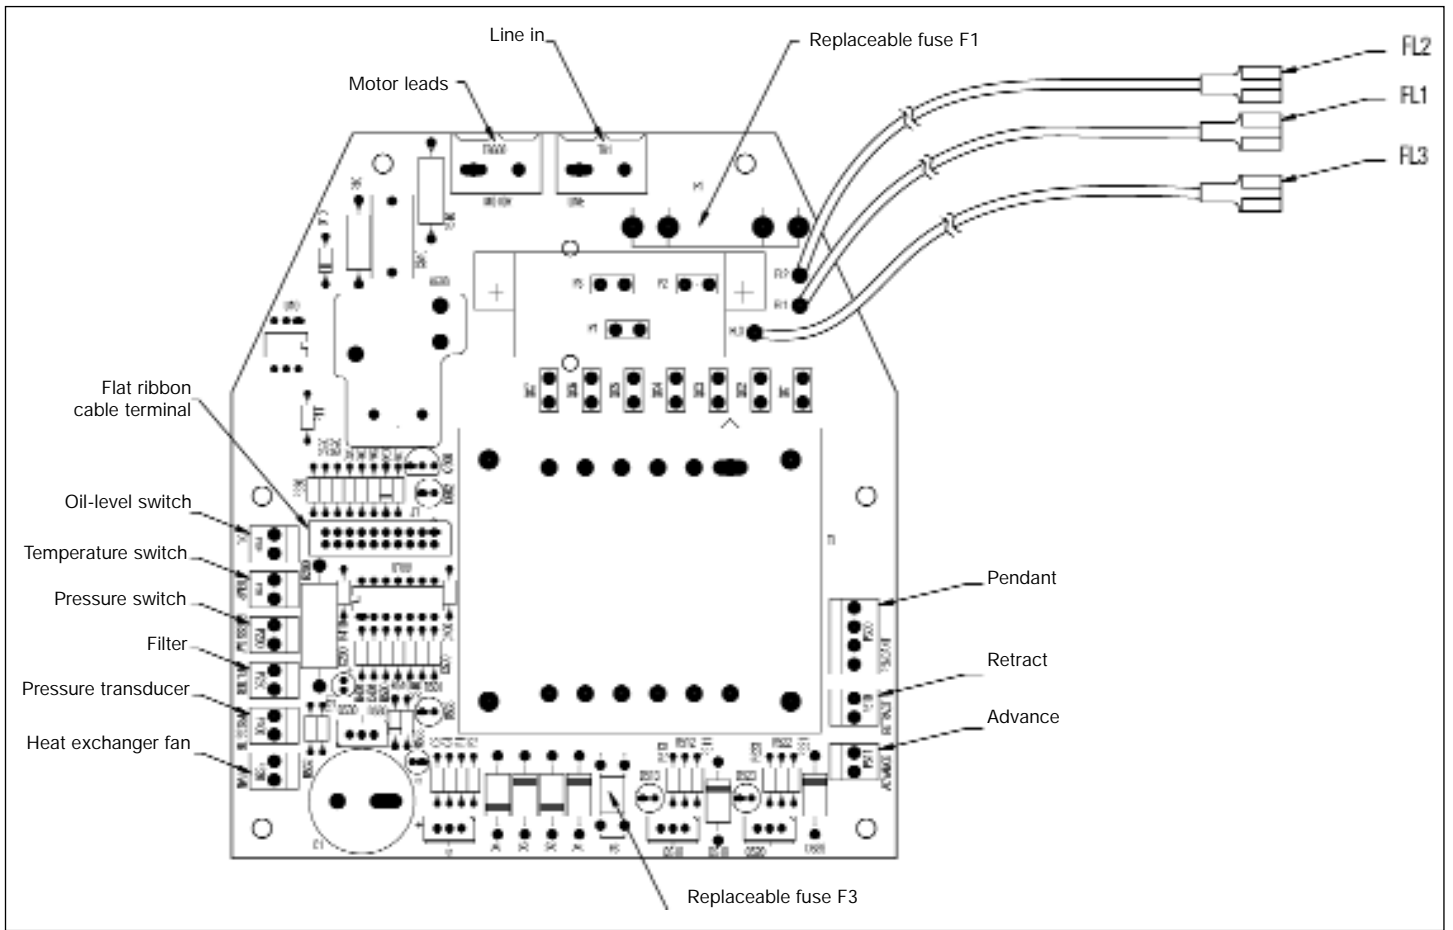

Figure 12, Electric Power Board Configuration
The pressure transducer, heat exchanger, pressure switch, pendant / foot switch, valve solenoids (A) and (B) are supplied with connectors that plug into the proper plug-ins found on the electrical power board (Figure 12).
Disconnect unit from power supply before opening shroud. Remove LCD shroud half and one small hole plug from front bracket. Route wire through front bracket, connect to power board (see figure 12), and secure strain relief. Install shroud half.
Disconnect unit from electrical power supply before opening shroud. Remove LCD shroud half and one small hole plug from front bracket. Route pressure switch wire through front bracket, connect to power board (see figure 12), and secure strain relief. Install shroud half.